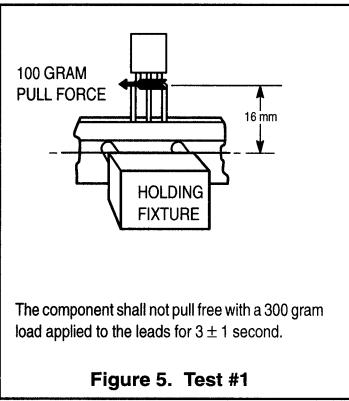

Figure 5. Test #1
2. Defective components shall be clipped from the carrier tape such that the remaining protrusion (L) does not exceed a maximum of 11 mm.
3. Component lead to tape adhesion must meet the pull test requirements established in Figures 5, 6 and 7.